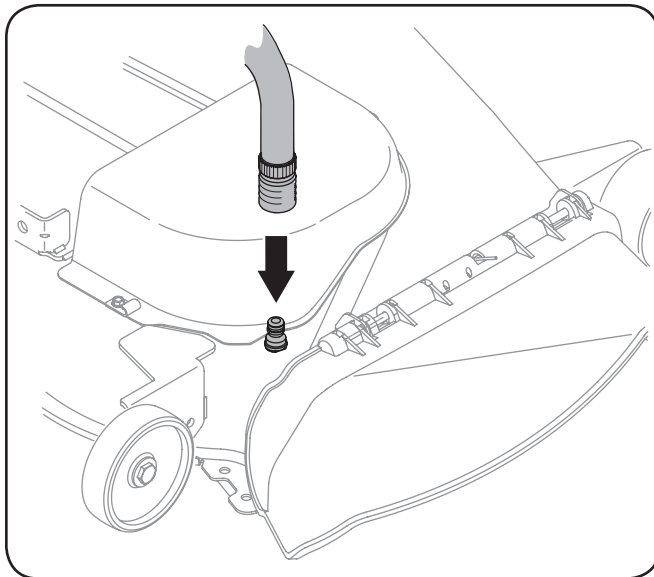

Figure 3-1
3. Attach the hose coupler to the water port on your decks surface. See Fig. 3-1.